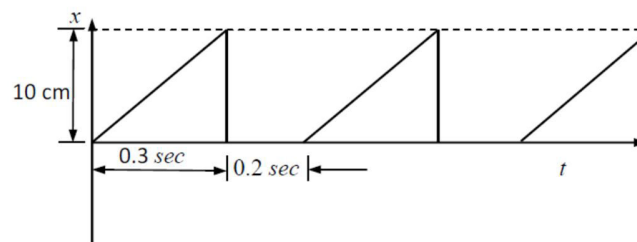

Fig.1
- Represent the periodic motions given in Fig.1 by harmonic motion.